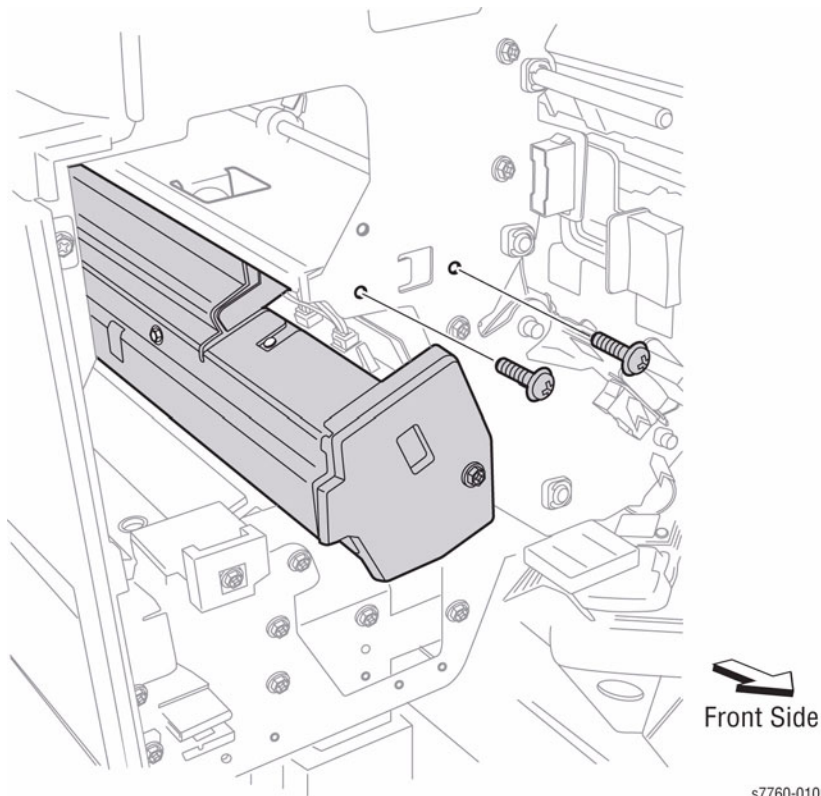

Figure 1 Removing Screws (Front Side of Finisher)
3. Remove the 2 screws securing the Punch Frame Assembly from the front of the Finisher (Figure 1).